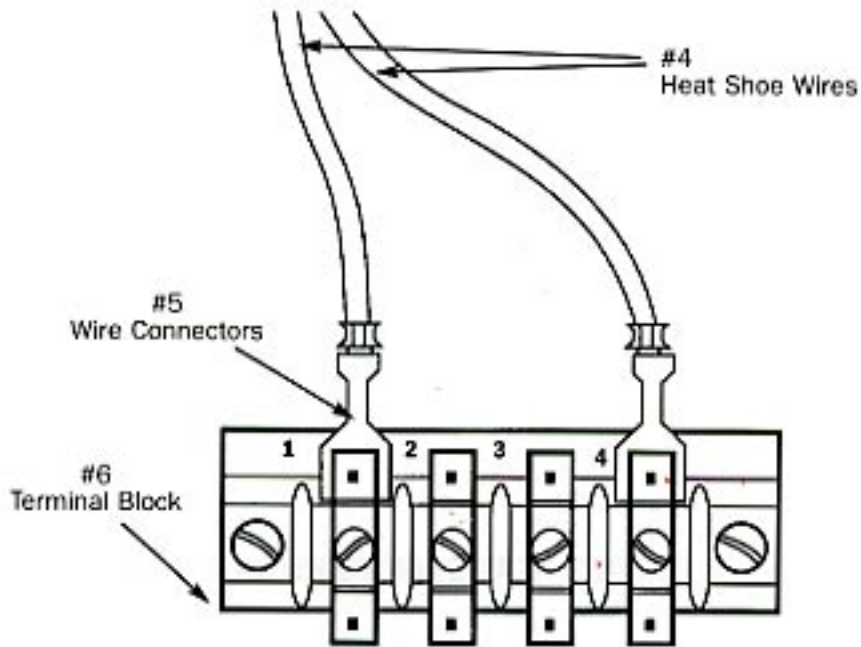

Figure 18-1
6. Wiring from the heat shoe will now be exposed, see #4 on figure 18-1 on page 18.
7. Unplug the wire connectors, see #5, from the terminal block, see #6 on figure 18-1.
- Plug wires into terminal block as shown in Figure 18-1.